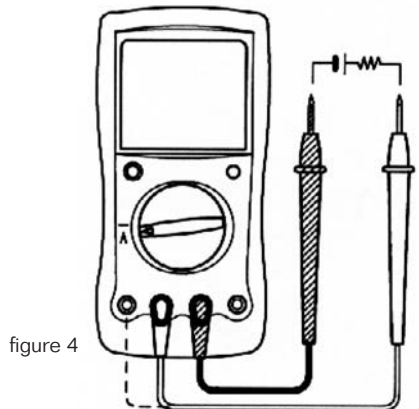

figure 4
B. DC Current Testing (see figure 4)